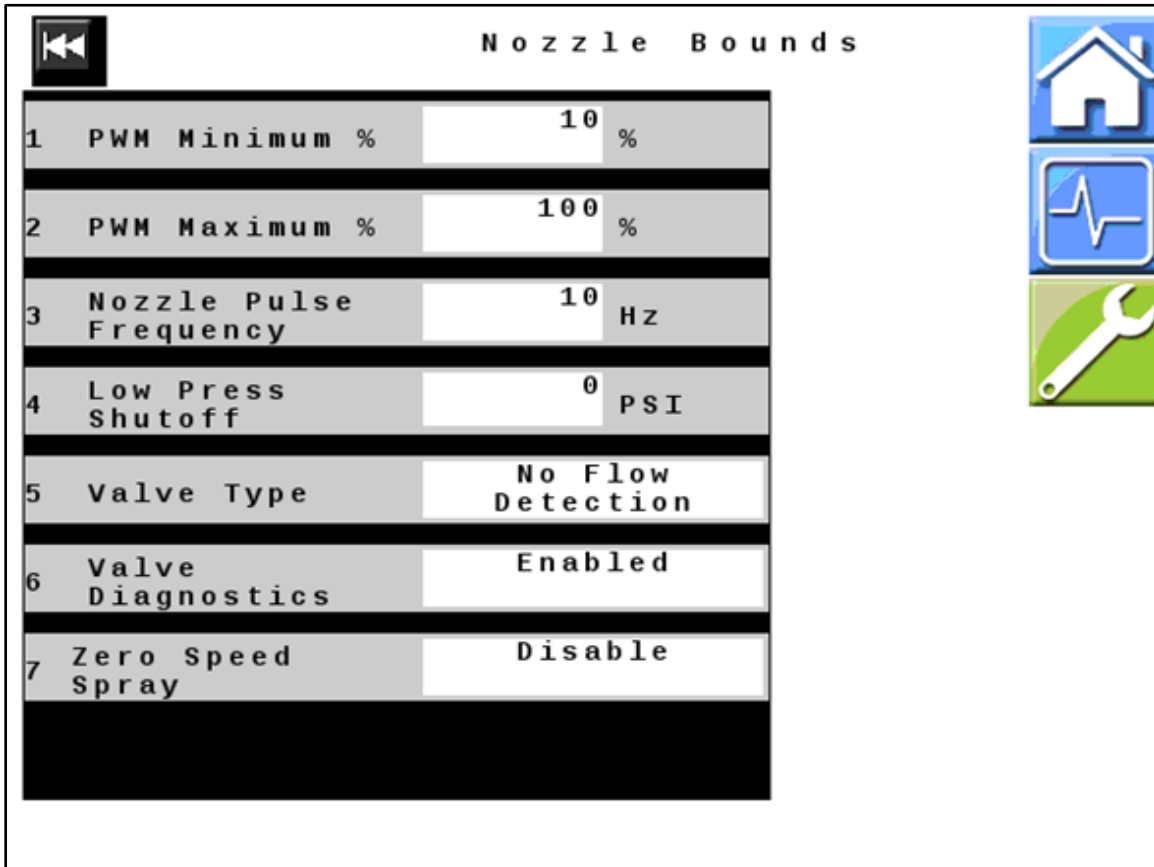

Figure 9 — Nozzle Bounds
15. *Figure 9:* The information in the fields on this screen is machine specific, verify that it is correct for your machine, and change any settings if necessary.